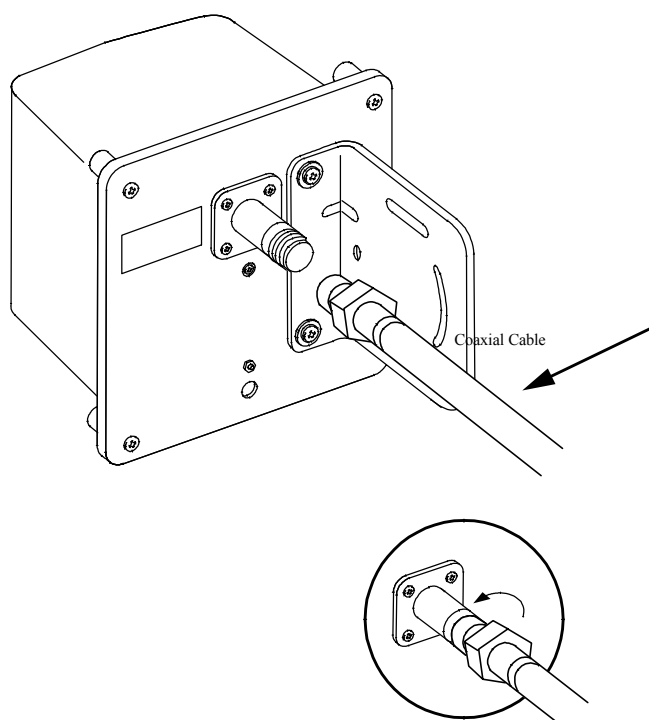

Figure 2-6 : Coaxial Cable Connection to Antenna
9. Connect the coaxial cable to the antenna as shown in Figure 2-6.